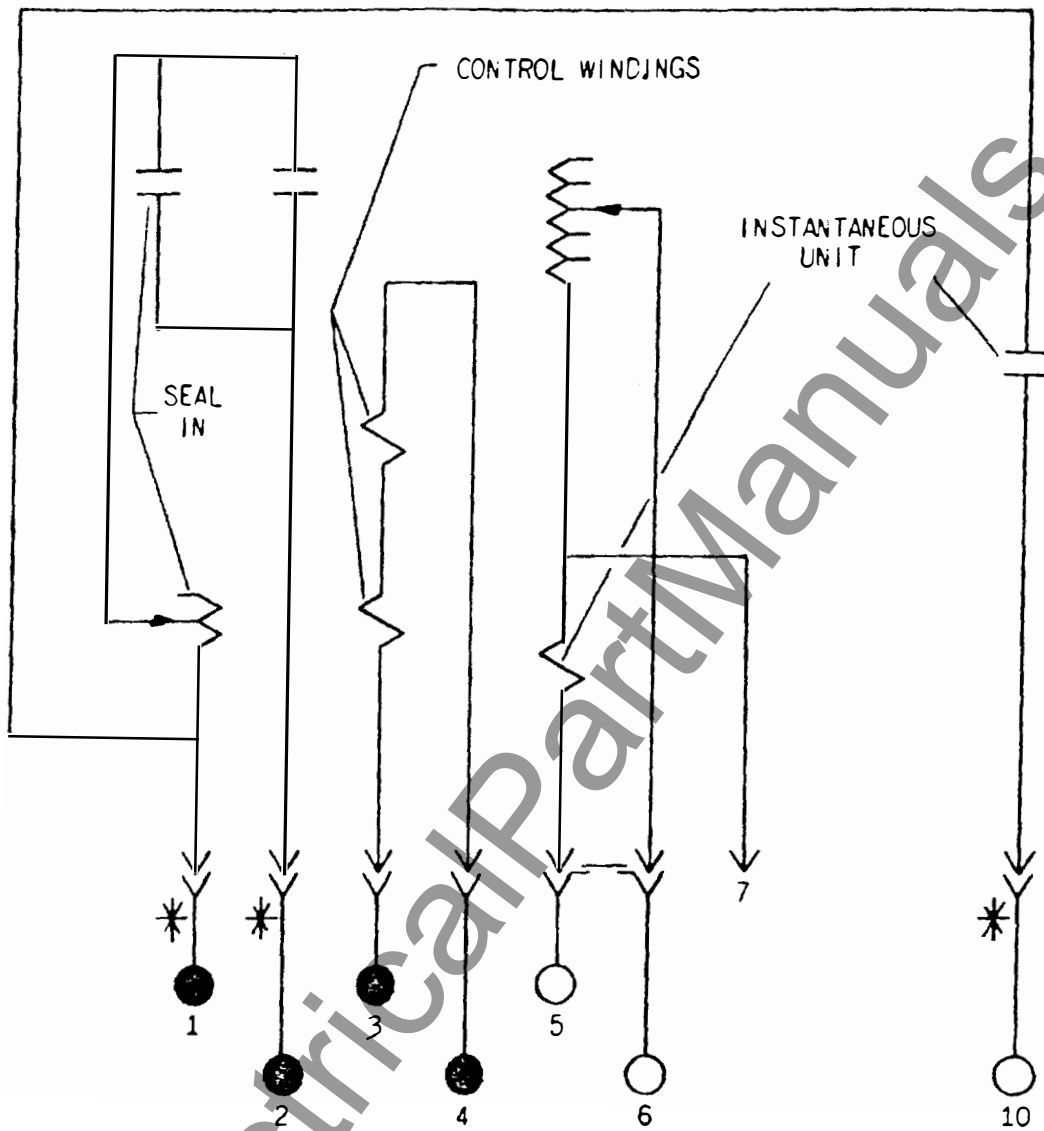

FIG. 1 (0226A7212-0) INTERNAL CONNECTIONS DIAGRAM FOR THE IAC80M RELAY (FRONT VIEW)
1. The internal connections are as shown in figure 1 of this supplement.